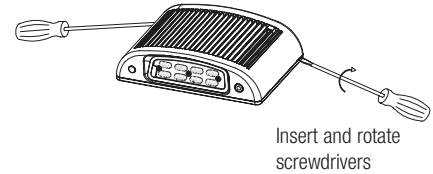

Fig. 1
1. Use flat blade screwdriver. Insert the screwdriver to the slots and pry off front cover from fixture. (see Fig.1)